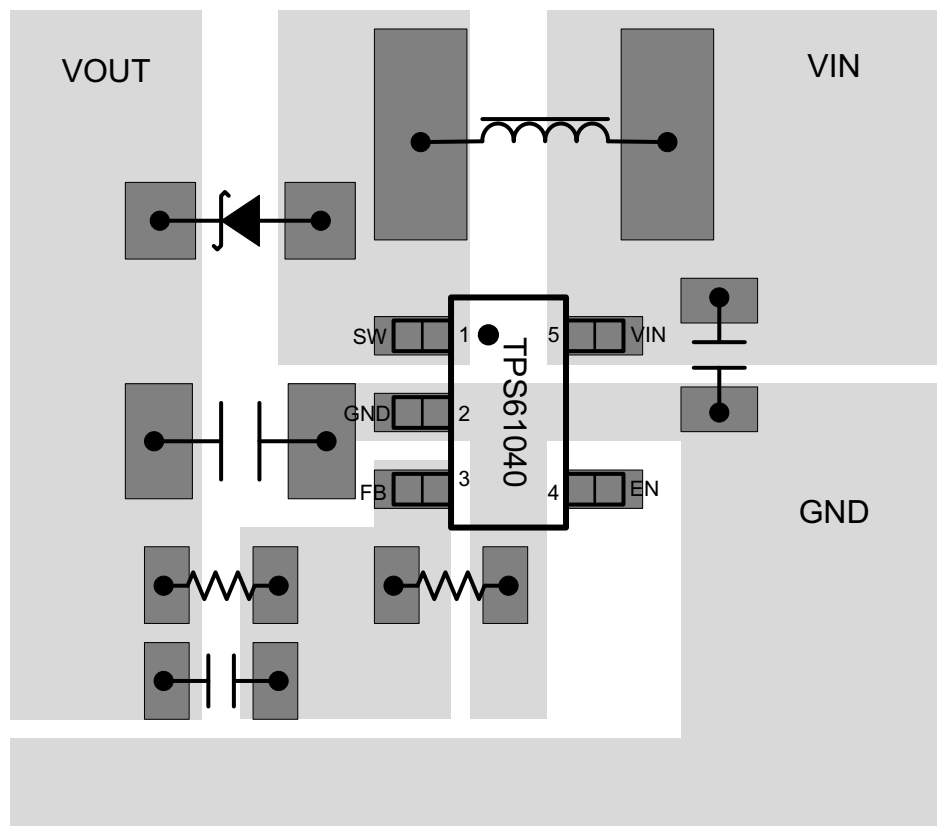

Figure 23. Layout Diagram
**Table 3. Recommended Inductor for Typical LCD Bias Supply (see Figure 23)**
**Table 5. Recommended Schottky Diode for Typical LCD Bias Supply (see Figure 23)**
Wide traces should be used for connections in bold as shown in Figure 23. A star ground connection or ground plane minimizes ground shifts and noise.